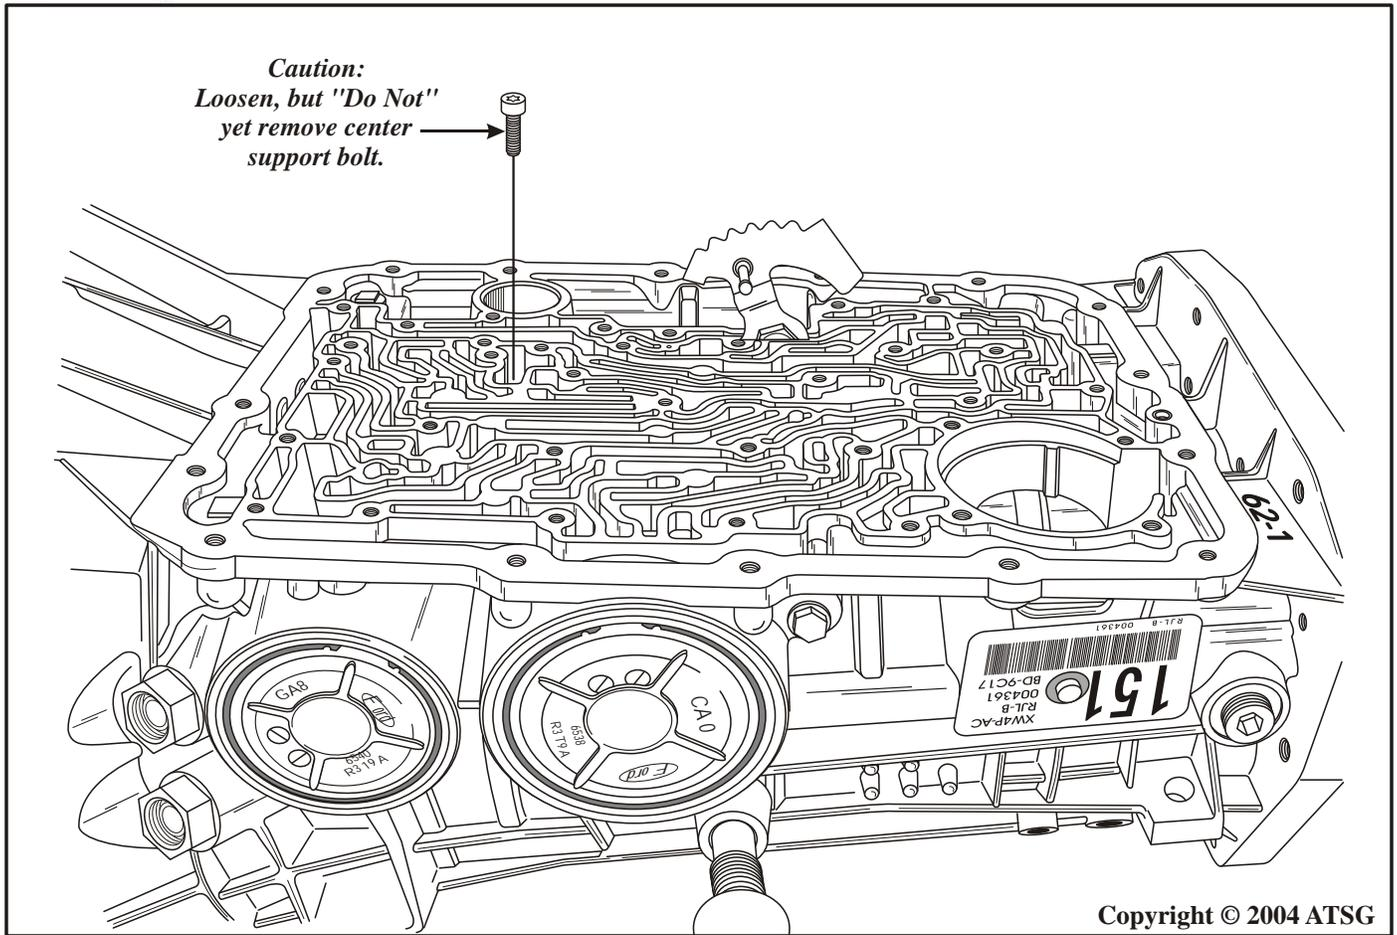

Figure 32
22. Loosen, **but do not remove**, the center support retaining bolt (See Figure 32).